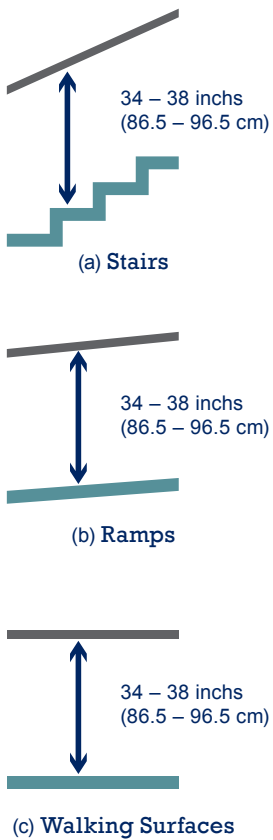

Figure 1. Handrail Height Measurement
- Install a two-rail system; a top rail at 42 inches (106.7 cm) high and a second handrail at 34 inches (86.5 cm) minimum, and 38 inches (96.5 cm) maximum vertically above stair nosings (see Figure 1).
- Handrails should be at a consistent height above stair nosings, ramp surfaces and walking surfaces. Top of handrail gripping surfaces should be 34 inches (86.5 cm) minimum and 38 inches (96.5 cm) maximum vertically above the stair nosing (see Figure 1.).